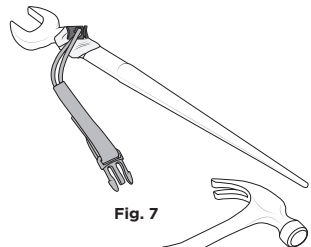

Fig. 7
- a. If Elastic Loop/Cinch Tool Tail™ is used, the tape can be wrapped on top of tail or crisscrossed on either side of tail. [fig 7]